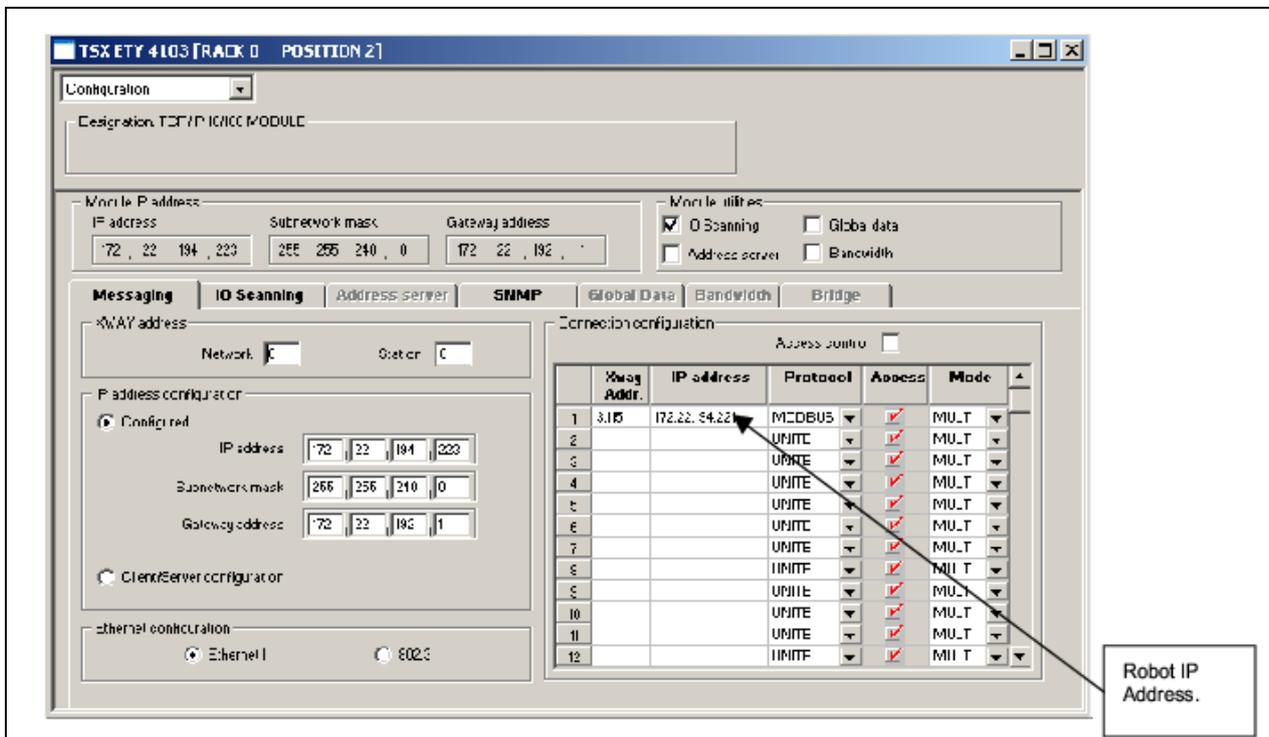

Fig. 3.3 IP address
- Enter the IP address of the robot in the IP address field in the Connection Configuration section. See Fig. 3.3.